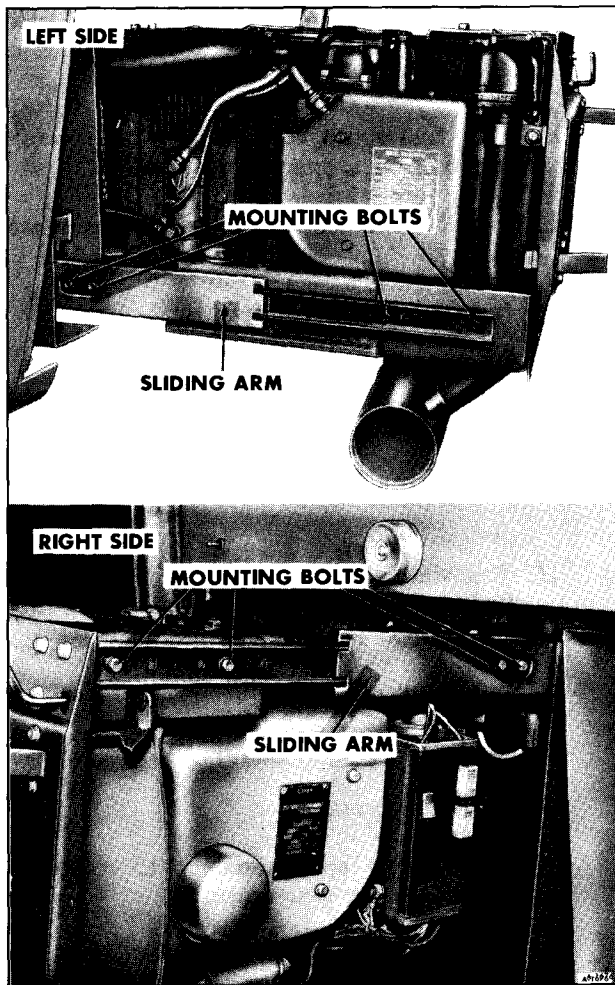

Figure 4—Disconnecting Sliding Arms (Typical)
6. Remove bolts from both sliding arms (figure 4).
4. Install mounting bolts in slide rails as shown in Figure 4.